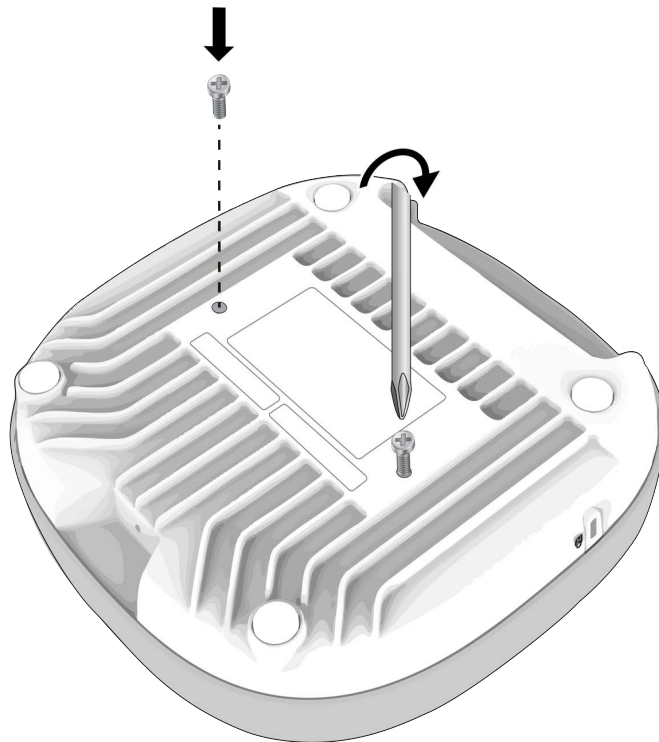

Figure 11. Attaching the Bracket Screws to the Access Point
2. Install the two M5 x 4.5m screws (provided) fully into the bottom panel of the access point. See Figure 11.